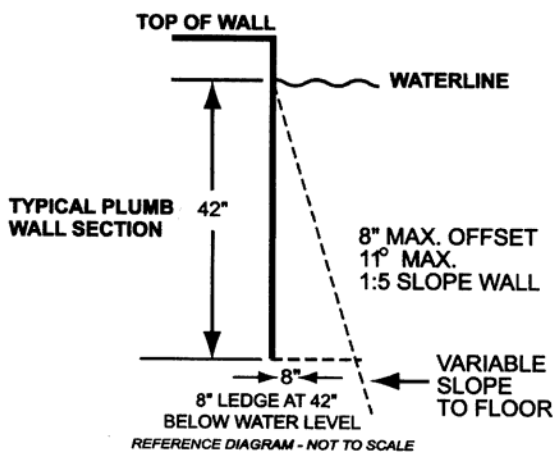

Figure 4- Offset ledges
5.5.1.1 Offset ledges, located less than 42 inches (1067 mm) below waterline shall be proportionately less than 8 inches (20.3 cm) wide and fall within 11° from plumb, measured from the top of the waterline. See figure 4.